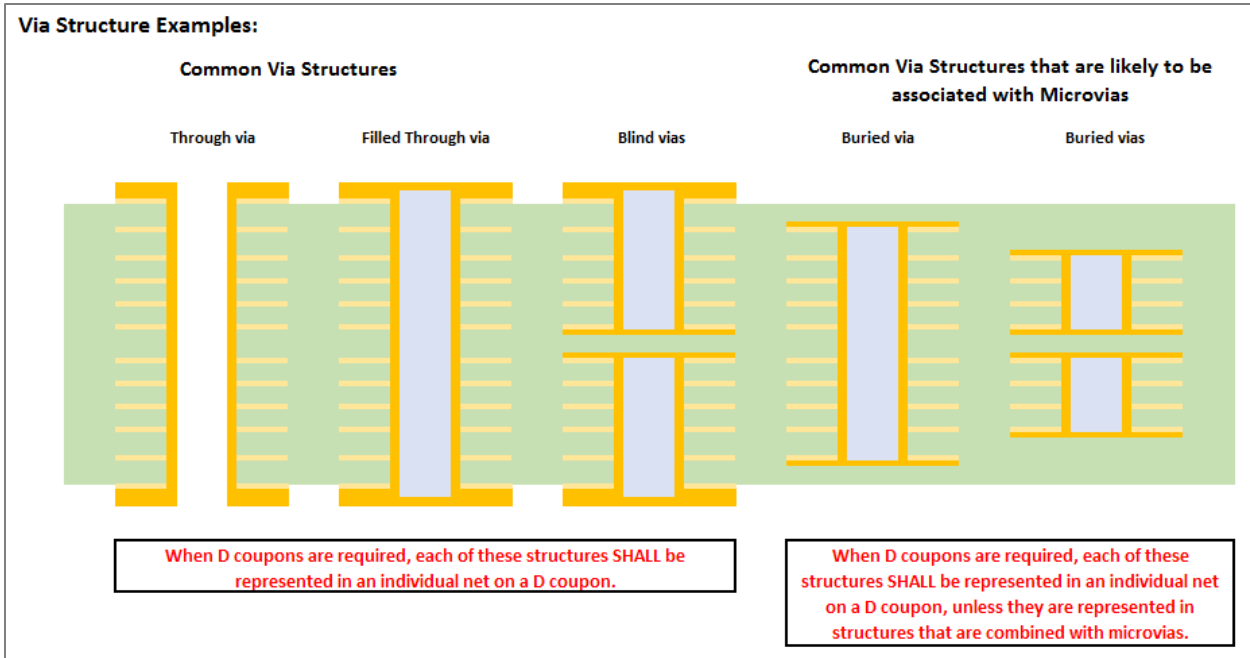

Figure A.7-4 D Common Via Structures
A.7.1 Structures Any individual drilling/plating sequence was previously considered to be a structure. In many of today's designs, a single net may utilize many different, closely spaced propagated vias. To address this, structures are now defined to include holes drilled and plated at different times when they are closely spaced and used together in the design. Vias **shall** have a single intermediate layer in common in order to be combined together to form a structure. Figure A.7-4 illustrates several examples of via structures.